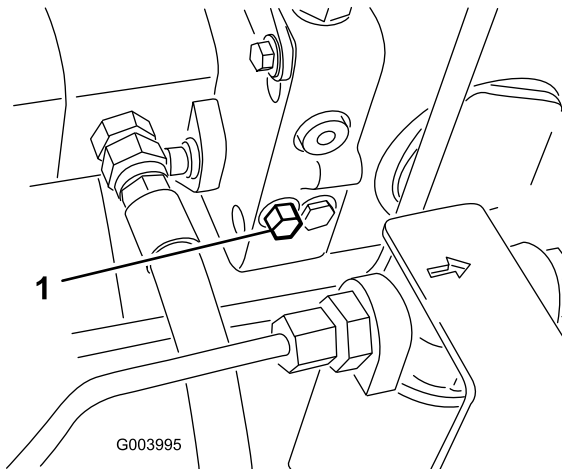

Figure 55
1. Rotate the bypass-valve bolt 1-1/2 turns to open and allow oil to bypass internally (Figure 55).